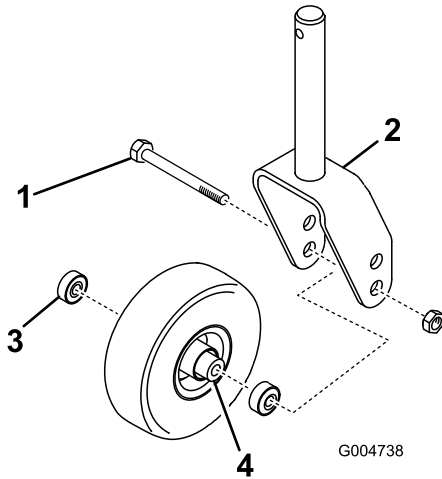
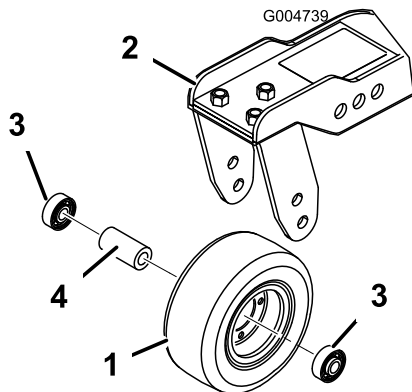

Figure 94
Figure 95
1. Remove the locknut from the bolt holding the caster-wheel assembly between the caster fork (Figure 94) or the caster-pivot arm (Figure 95).
2. Remove the bearing from the wheel hub and allow the bearing spacer to fall out (Figure 94 and Figure 95).